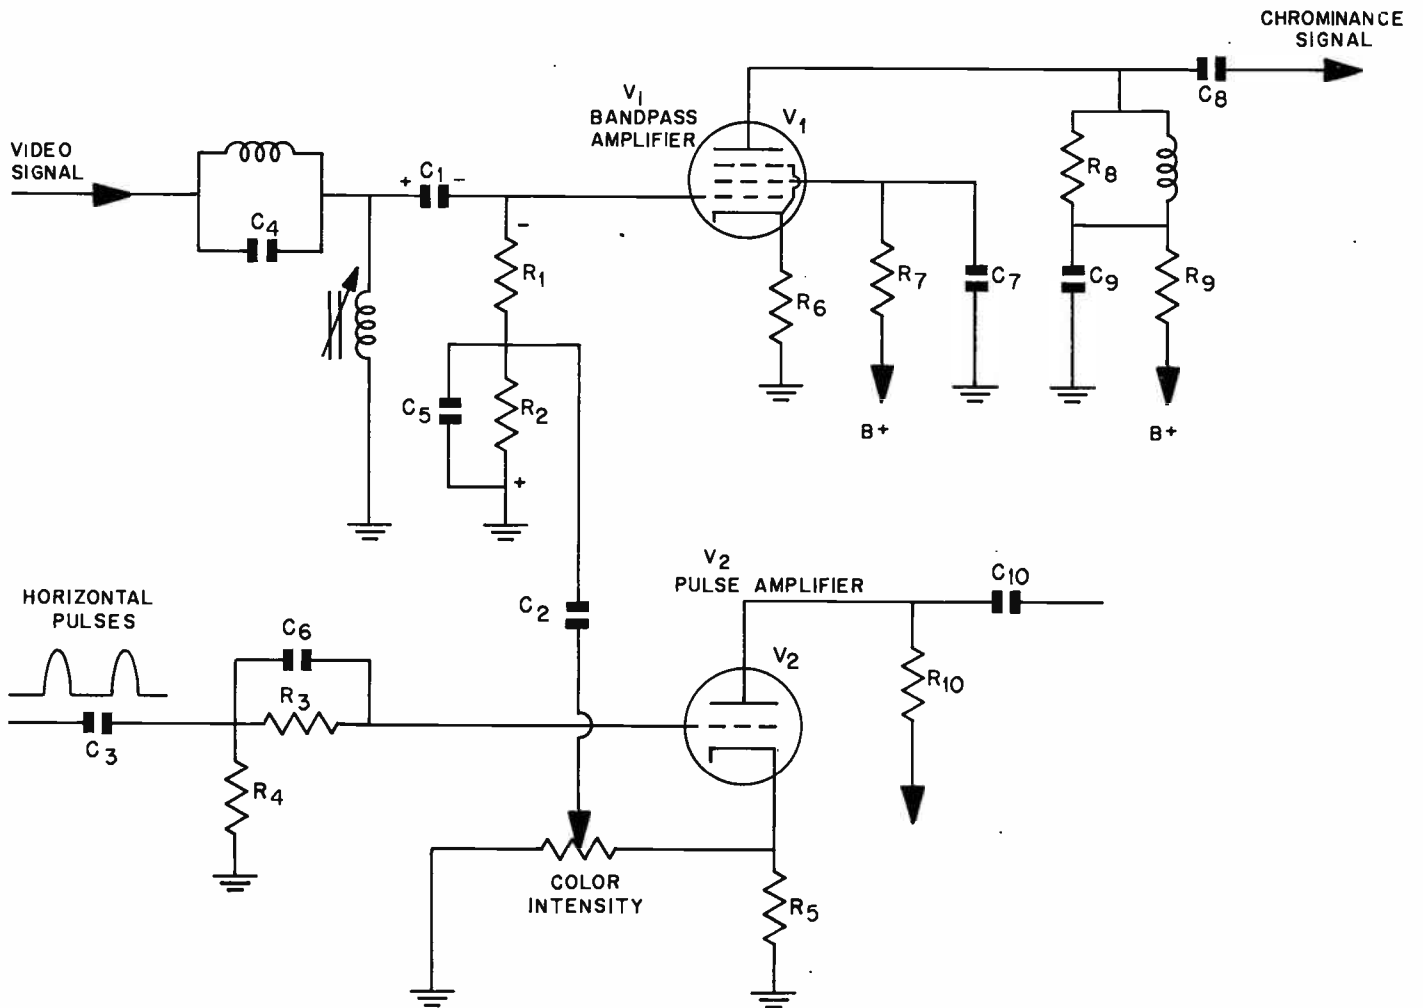

Fig. 5. The amplitude of the chrominance signal is controlled by adjusting the bias on the bandpass amplifier.
Fig. 5 is an example of a single stage color amplifier where the color control adjusts the gain of the amplifier by varying the grid bias. The color control, labeled "color intensity", is located in the cathode circuit of a pulse amplifier stage, V_2 . Positive horizontal pulses are fed to the grid of V_2 . The stage operates as a cathode follower, producing horizontal pulses across the color intensity control.
- How does the color intensity control in Fig. 5 change the amplitude of the color signals?